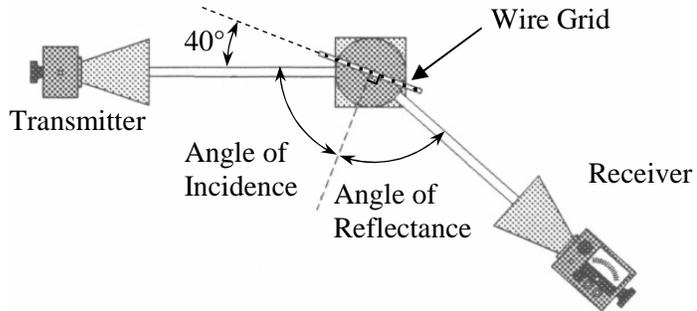

Figure 7
- Place the wire grid so that the center pin of the goniometer hinge fits into the recess in the bottom of the grid frame (see Figure 7). Align the grid so that it is at 40° on the goniometer scale.
Question 1-1: What is the angle (labeled “Angle of Incidence” in Figure 7) between the incident microwave beam and the normal to the plane formed by the wire grid array?